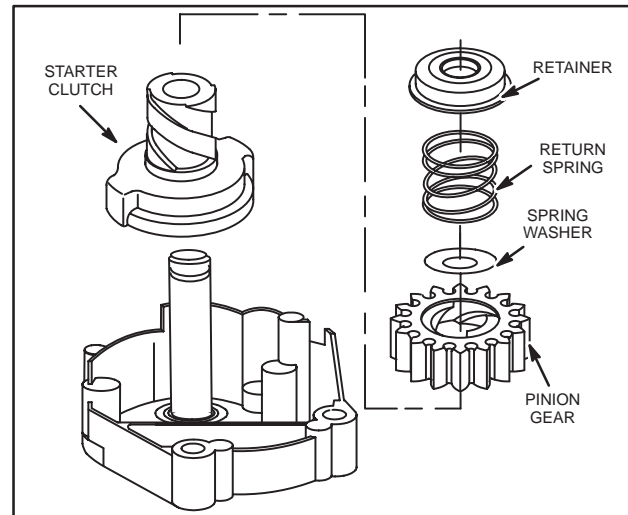

Fig. 16 – Removing Starter Drive
- Remove retainer, return spring, spring washer, pinion gear, and starter clutch, Fig. 16.